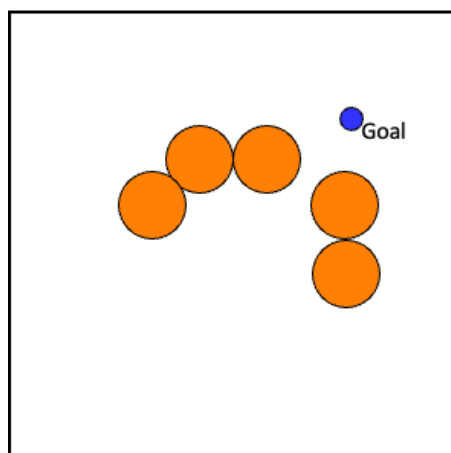

Figure 5: A simple warehouse.
3. Crowded warehouse: (a) Consider the map of Figure 5, which shows a warehouse with five barrels. Explain what new issue will appear that did not exist previously. Modify your APF model of the obstacles to address this issue as much as possible, and providing accordingly the revised equation/s for the APF vector/s, dropoff, etc. Indicate the pros and cons of the new design.
(b) Build a Webots world for the map in Figure 5, with the five identical barrels positioned exactly as shown. Implement and test a controller program as per your revised design. Experiment in simulation by placing the robot at different initial locations and orientations, including again the three corners away from the goal. Provide in your report screenshots (with trace) of your experiments, including comments about the issues faced and how you addressed them.